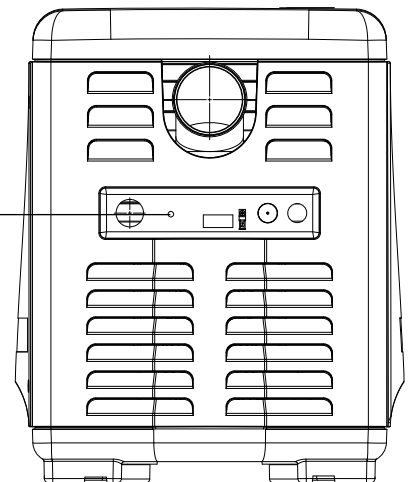

Figure 28
A bonding lug is provided on the heater located on the upper side of the base by the plumbing side (see Figure 28). The heater along with the pool system equipment must be bonded together. Using solid copper conductor not smaller than 8 AWG to reduce voltage gradients in the pool area.
2. Locate the small hole in the exhaust panel, for the RS-485 cable. Use an appropriate size drill bit for the flexible conduit or strain relief to be used in the exhaust panel to drill a hole for the RS-485 wires. See Figure 28.